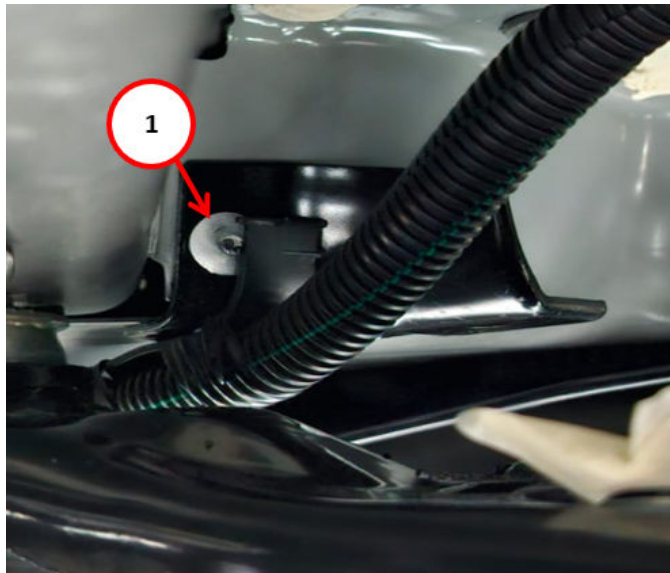

Fig. 3
4. Apply the third fixing rivet to the support bracket and then insert the harness clip into the previously fixed bracket Fig. 3.